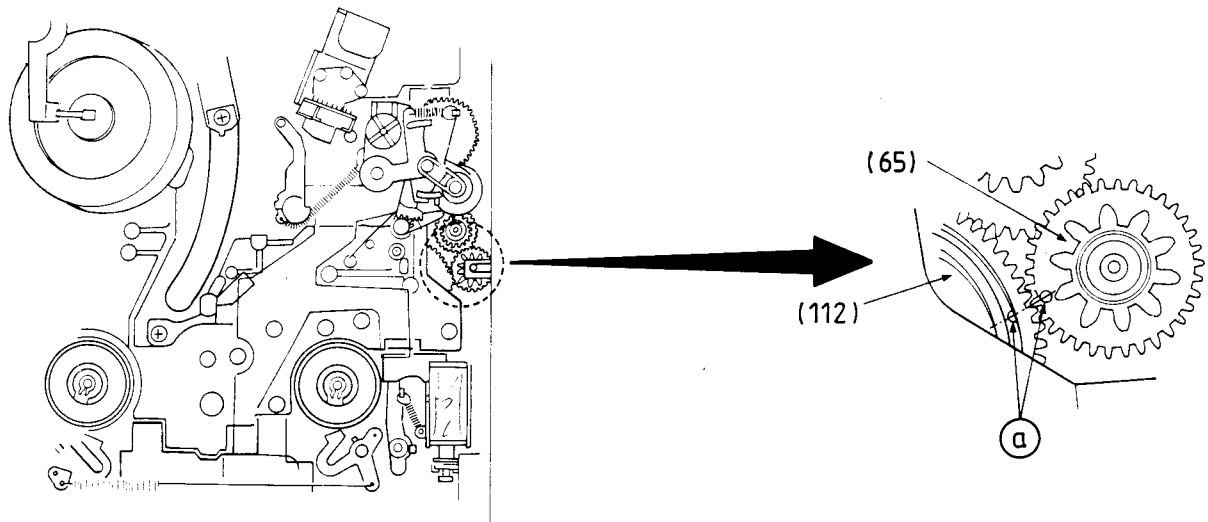

Fig. 61
- Fit the Intermediate Gear (65) as shown in Fig. 61. The marked holes **a** on the Intermediate Gear (65) and the Cam gear (112) must be aligned towards each other.